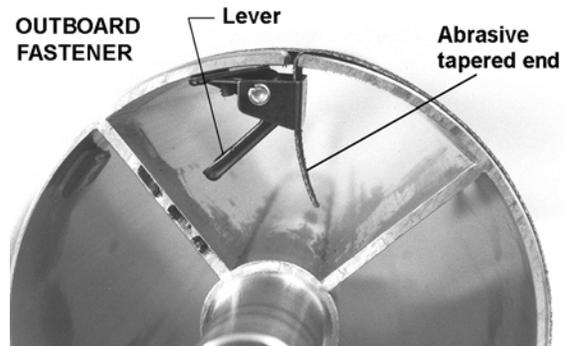

Figure 10
2. Squeeze the fastener lever (Figure 10) on the outboard end of drum, and insert the tapered end of the abrasive so that it uses most of the width of the slot. Release the fastener lever to securely hold the strip end to the fastener.